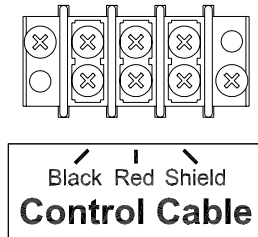

Figure 17 Control Cable Wiring Diagram
3. Connect the control cable to terminal block labeled **Control Cable** on the junction chassis according to figure 17.